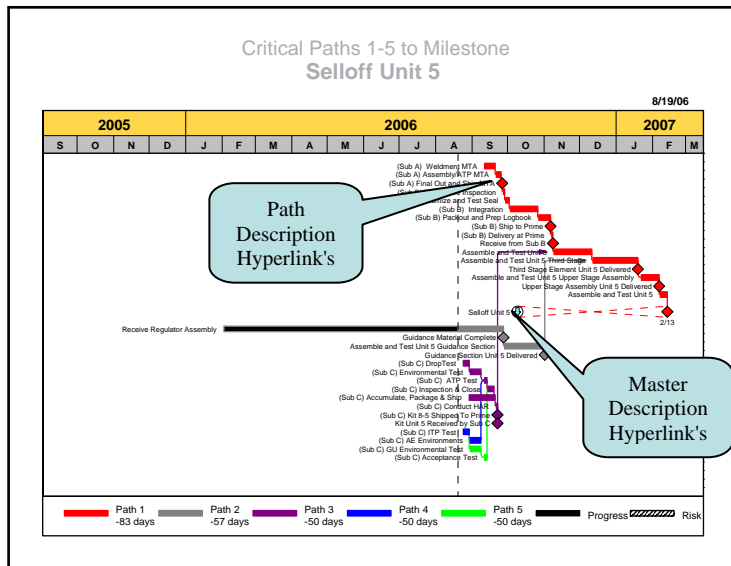

Figure 6
- 4) The chart (Figure 6) can now be modified and/or copied to Microsoft Word or PowerPoint for presentation.